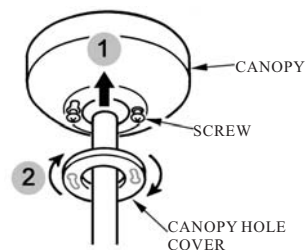

FIG.10
5. Place the canopy hole cover over the screws and twist the cover to tighten. (see Fig. 10)